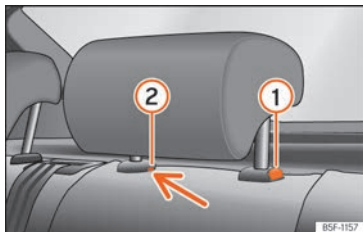

Fig. 110 Rear headrest: removal.
- Press button » Fig. 110 ①, while simultaneously pressing on the security hole ② with a flat screwdriver a maximum of 5 mm wide, and remove the headrest.